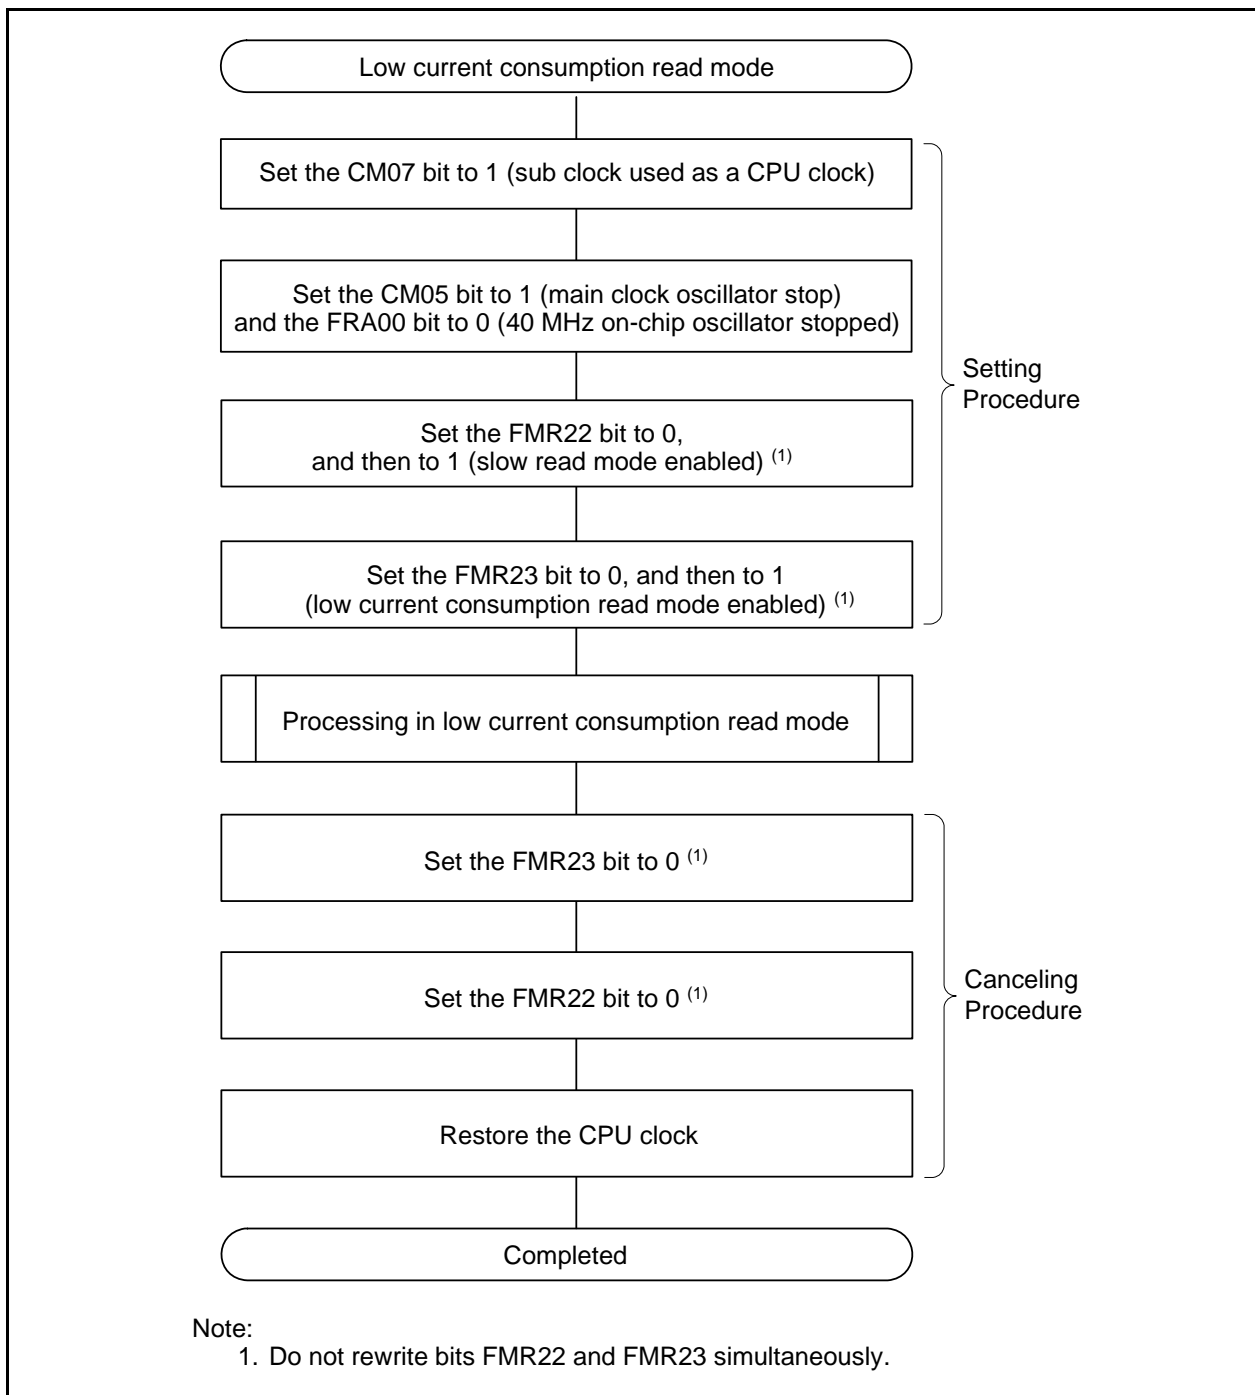

Figure 9.4 Setting and Canceling Low Current Consumption Read Mode
Low current consumption read mode can be used when the CM07 bit in the CM0 register is 1 (sub clock used as CPU clock). Figure 9.4 shows Setting and Canceling Low Current Consumption Read Mode.
- Enter low current consumption read mode through slow read mode (see Figure 9.4 “Setting and Canceling Low Current Consumption Read Mode”).